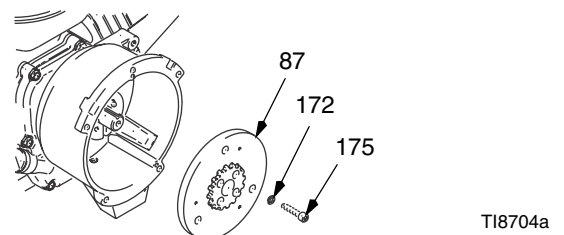

FIG. 7
9. FIG. 7. Use an impact wrench or wedge something between armature (87) and clutch housing to hold engine shaft during removal.
10. Remove four screws (175) and lockwashers (172).
11. Remove armature (87).
4. Install armature (87) on engine drive shaft.
5. FIG. 7. Install four screws (175) and lockwashers (172) with torque of 125 in-lb.